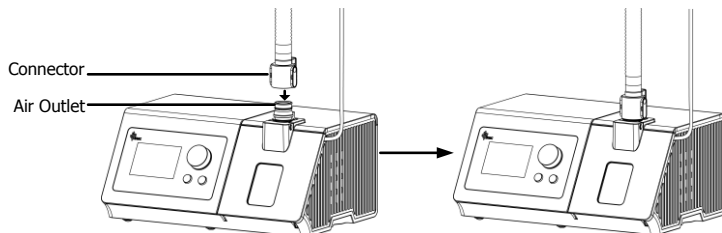

Fig. 11-11
- (1) **Connect the tube:** Connect the connector of the tube to the air outlet of the device and lock, and the specific steps are shown in Fig. 11-11.